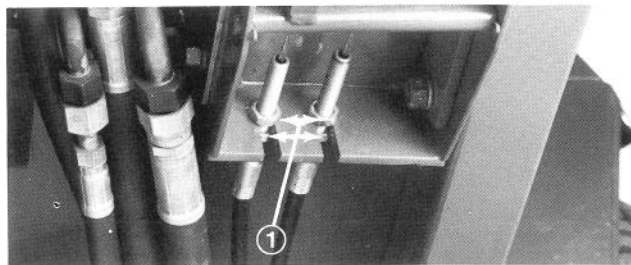

Figure 57
1. To reduce free travel of turn pedals — tighten the brakes — loosen front nut on threaded end of brake cable (Fig. 57). Then tighten rear nut to move cable backward until turn pedals have 1/2 to 1 inch (13 to 25 mm) of free travel. Tighten front nut after brakes are adjusted correctly.